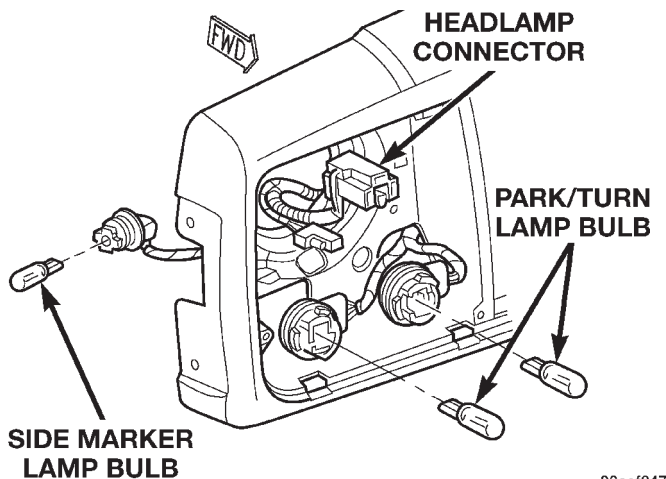
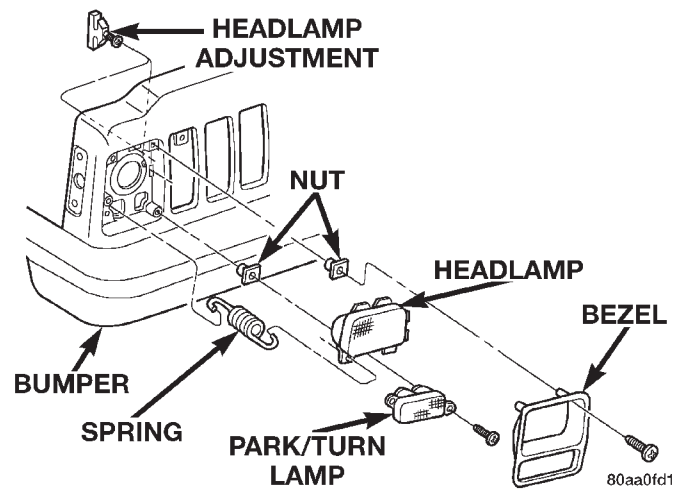

Fig. 1 Headlamp Connector
Fig. 2 Headlamp
- (1) Remove the screws attaching the bezel to the grille opening panel
- (2) Remove the screws attaching the retaining ring to the headlamp bucket.
- (3) Disconnect the headlamp bulb wire harness connector (Fig. 1).
- (4) Separate the bulb from the vehicle.
- (5) Remove the spring attaching the headlamp bucket to the grille opening panel (Fig. 2).
- (6) Slide the headlamp bucket downward to disengage it from the headlamp adjusting screws.